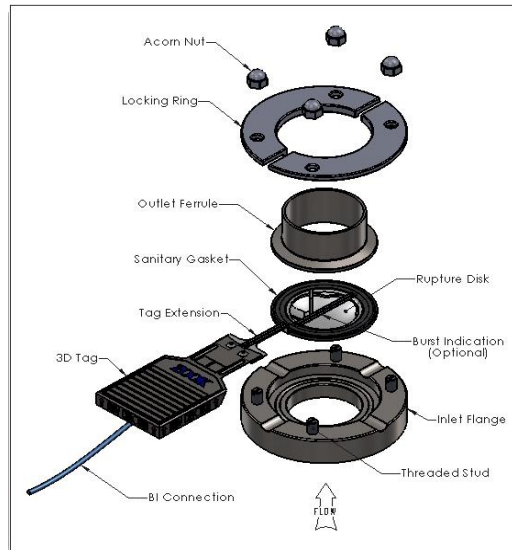

Figure 2: Sanitary NA Connect Style Installation.
- e) **FOR NA CONNECT STYLE INSTALLATION (Figure 2):**